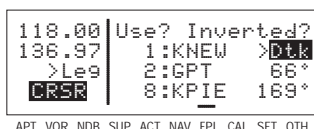

Figure 4-8
2. Press **CLR**. The cyclic field will change to magnetic desired track (**Dtk**) (figure 4-8). An additional **CLR** press cycles back to **Dis**.